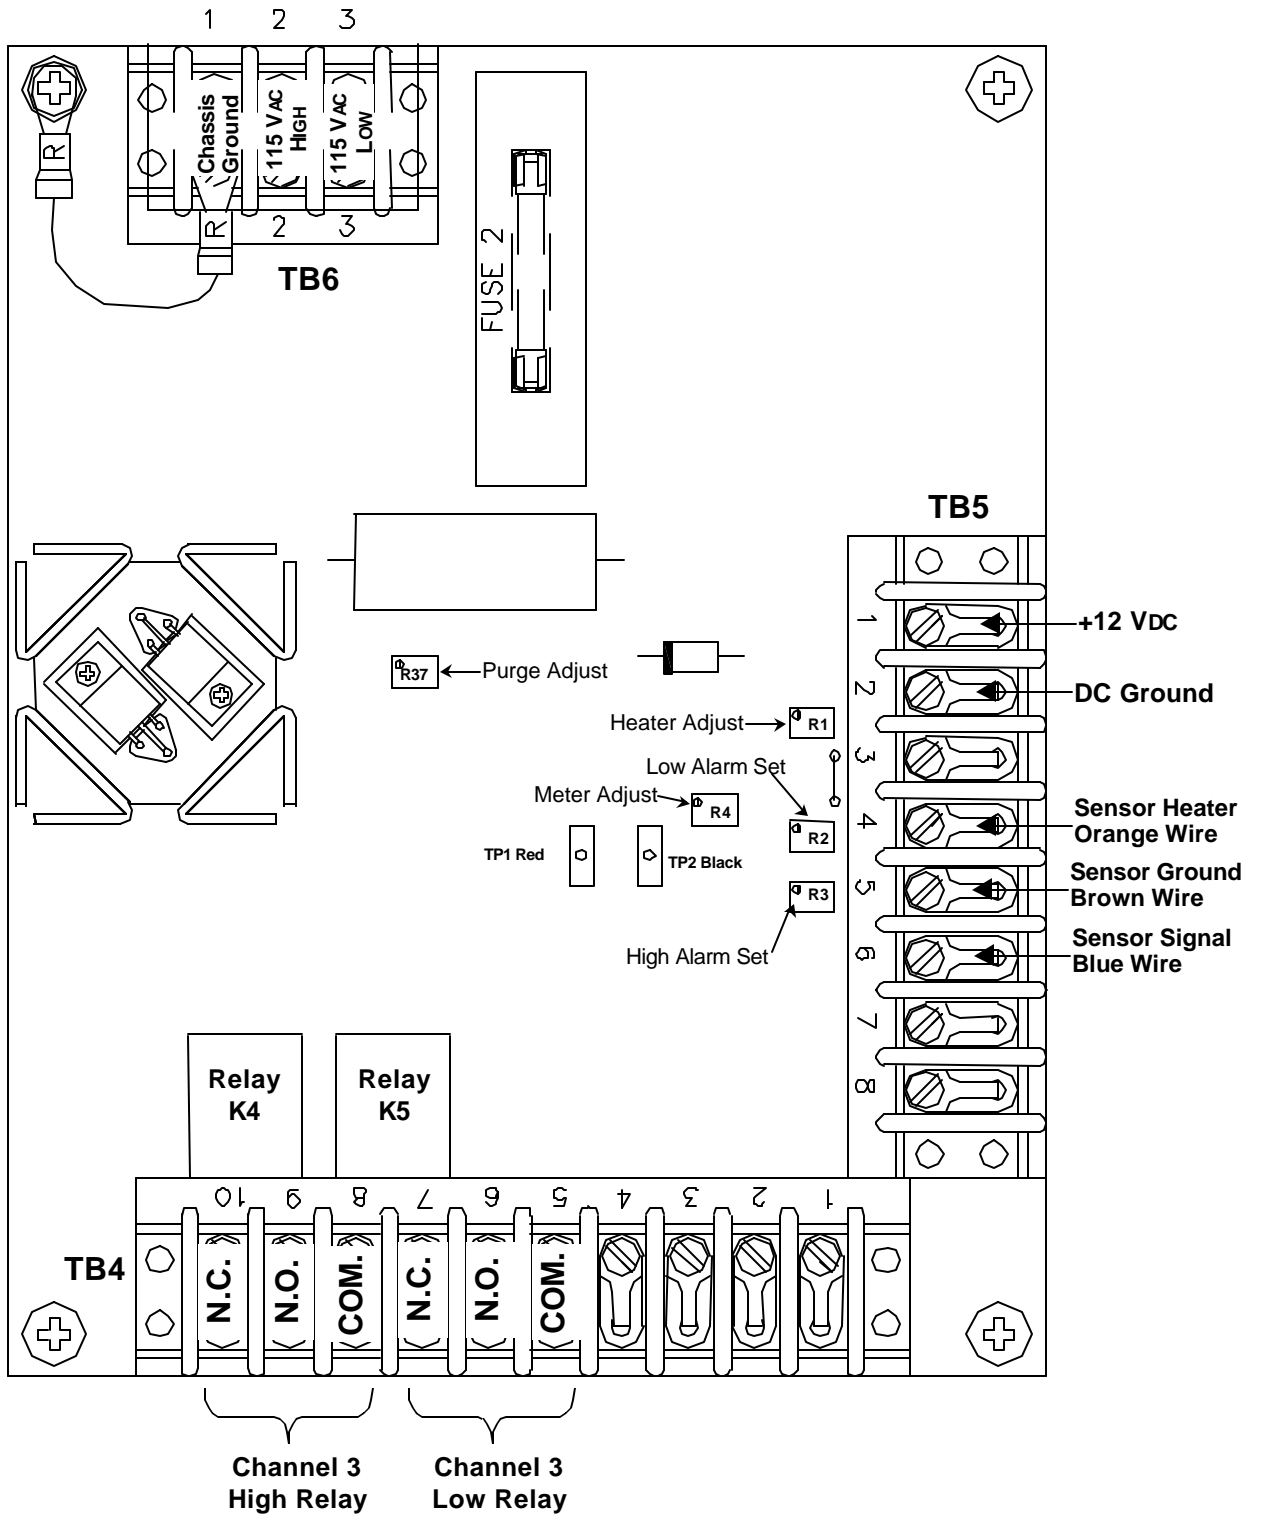

Figure 4: Circuitry PCB 3 Channel 3
4. Apply 115 VAC, 220 VAC* and/or 12 VDC power to the proper terminals. Refer to **Figure 4**.
Adjust the sensor heater POT (RV32 see **Figure 4**) to the required voltage.